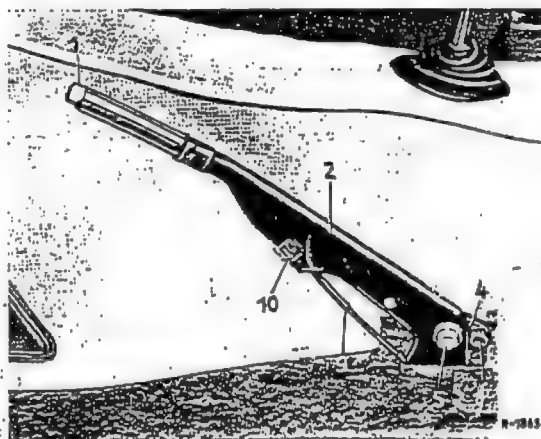

Fig. 42-18/7
3. Push the push button (1) home and remove the brake lever (2) toward the front.
4. If the teeth of the toothed segment (4) should be damaged, remove the segment after unscrewing the hexagon screw (6).
5. Check the bearing bushings (12) in the brake lever for wear and replace, if necessary (Fig. 42-18/6).